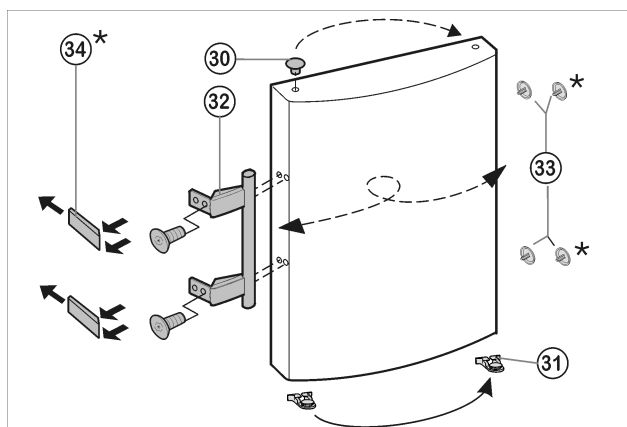

Fig. 8
- ▶ Lift the stopper Fig. 8 (33) out of the door bearing bush and transfer it.
- ▶ Dismantle the door handle Fig. 8 (32), stoppers Fig. 8 (33) and pressure plates* Fig. 8 (34) and transfer to the opposite side.